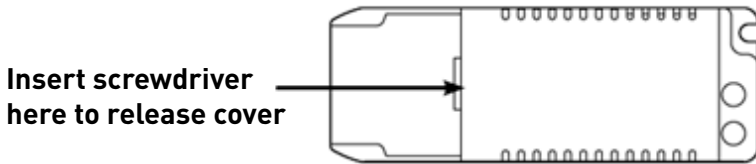

Fig 2
- Remove the terminal cover on the driver by inserting a screwdriver into the gap and gently prying (see Fig 2)